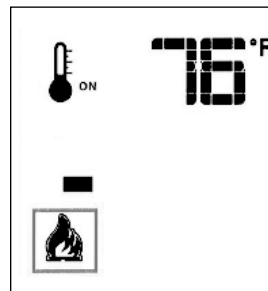

Fig. 14.8. Flame Level 1.
- With the system ON, and the burner flame level at maximum, press the Down Arrow Key once to reduce the flame height by one step. Each time the Down Key is pressed, the flame will step down until the burner is finally turned off. Fig. 14.8.
- The Up Arrow Key will increase the flame height each time it is pressed. If the Up Arrow Key is pressed while the system is on but the flame is off, the flame will come on in the High position as in figs. 14.8 - 14.10. A single “beep” will confirm reception of the command.